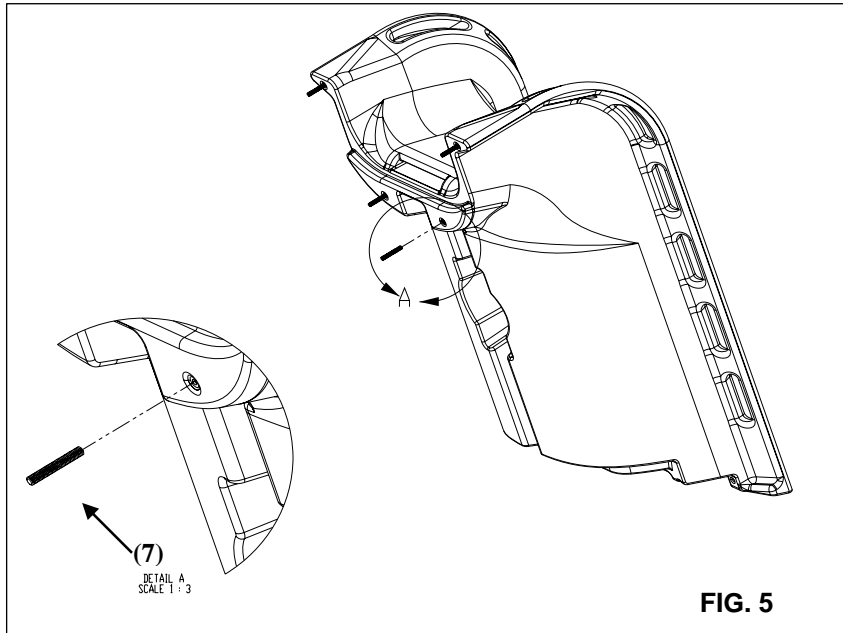

FIG. 5
- 4) Insert the threaded studs into each of the threaded inserts as shown in Figure 5. The studs should be screwed in by hand until they reach the bottom of the insert. If the studs cannot be threaded in by hand, pliers may be used. Before using pliers, a piece of cloth should be placed over the stud to protect the threads from damage. **Note: Be sure to apply anti-seize to all fasteners to prevent galling.**